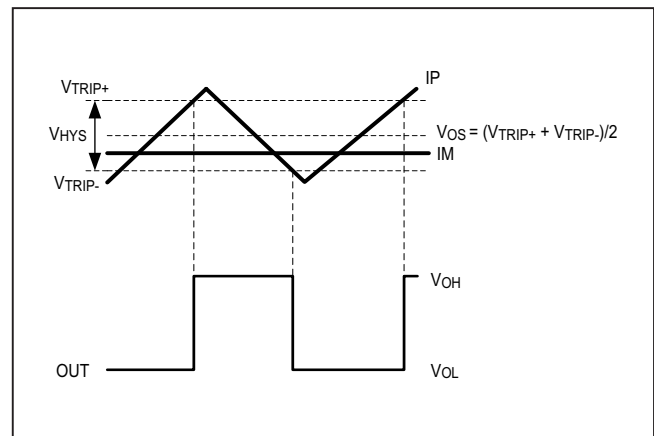

Figure 1. Hysteresis Band
**Note 4:** The hysteresis-related trip points are defined as the edges of the hysteresis band, measured with respect to the center of the band (i.e.,  $V_{OS}$ ) (Figure 1).
The hysteresis in a comparator creates two trip points: one for upper threshold (VTRIP+) and one for lower threshold (VTRIP-) for voltage transitions on the input signal (Figure 1). The difference between the trip points is the hysteresis band (VHYS). When the comparator’s input voltages are equal, the hysteresis effectively causes one comparator input to move quickly past the other, thus taking the input out of the region where oscillation occurs. Figure 1 illustrates the case in which IM has a fixed voltage applied, and IP is varied. If the inputs were reversed, the figure would be the same, except with an inverted output.